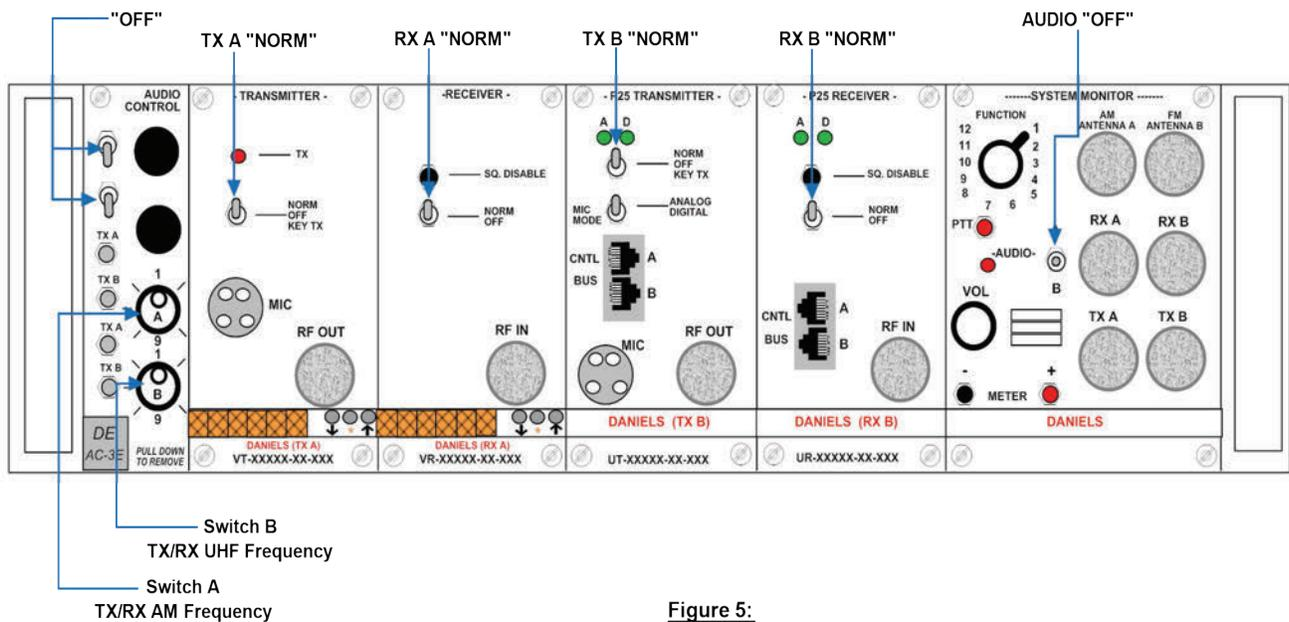

Figure 5:
8. Select an authorized assigned **AM frequency** for both the **TX A** and **RX A** using the 16-position rotary **Switch A** (top rotary switch) on the **Audio Control Module**. *(See Figure 5)*
9. Select the authorized assigned **FM UHF Link frequency** for both the **TX B** and **RX B** using the 16-position rotary **Switch B** (bottom rotary switch) on the **Audio Control Module**. *(See Figure 5)*